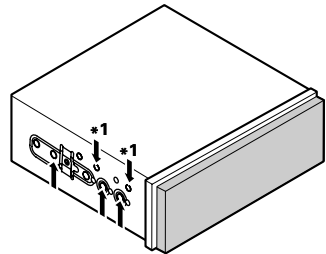

Fig. 17
- **Fastening the unit to the factory radio mounting bracket. (Fig. 17) (Fig. 18) (Fig. 19)**